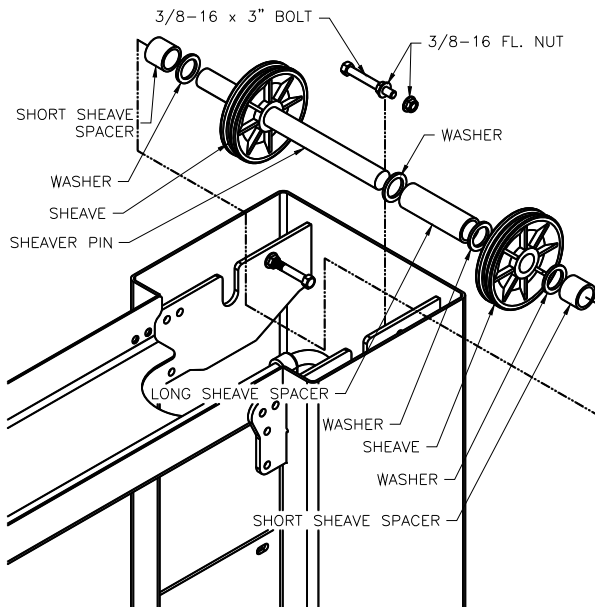

Fig 5 – Sheave Assembly
- 14) Assemble the sheaves and spacers onto the sheave pin as shown in **Fig 5**. Set in cradle with all assembly parts between the two plates.
- 17) At the top of each column extension assemble a 3/8-16 x 3"Lg bolt with (2) 3/8-16 flange nut at each sheave location, **Fig 5**.